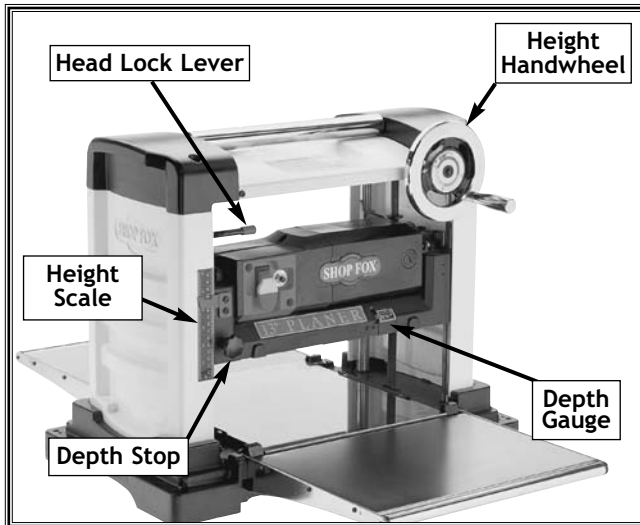
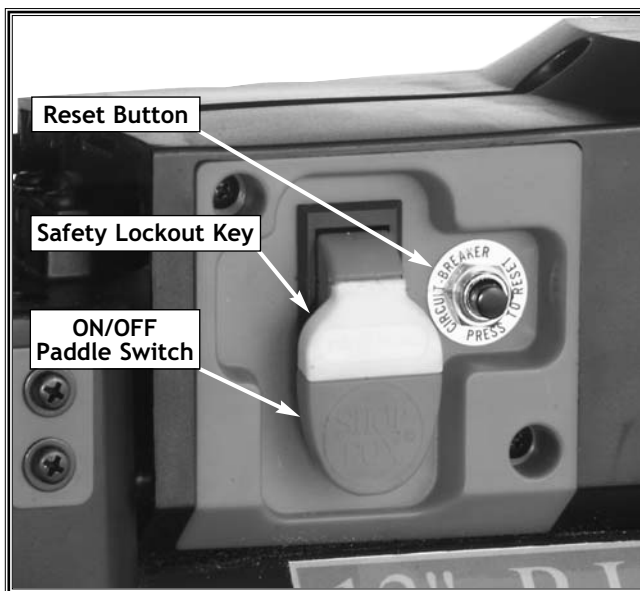

Figure 13. Machine controls.
Figure 14. Electrical controls.
Familiarize yourself with the controls of your new planer. They will be frequently mentioned throughout the instructions in this manual, and the better you know your machine, the better you can make it perform. Use **Figure 13** and **Figure 14** to locate the planer controls.
- **Height Handwheel** – Allows you to adjust the head up or down to accommodate the workpiece height and control cutting depth. The wheel also has a turn vs. cutting depth guide. See **Figure 13**.
- **Head Lock** – Allows you to lock the head in place so that the cutter height setting will not move after adjustment. See **Figure 13**.
- **Depth Gauge** – Shows you the current depth of cut to be made on the workpiece. Only works when the workpiece is directly under the gauge. See **Figure 13**.
- **Height Scale** – Shows you the current cutterhead height adjustment. See **Figure 13**.
- **Depth Stop** – Allows you to lock the cutterhead to a set depth so the cutterhead lowest setting does not change when planing many boards. The cutterhead can be returned to the minimum setting quickly after planing thicker wood. See **Figure 13**.
- **Reset Button** – Allows you to reset the planer if the thermal overload shuts the machine down. Only resets after the machine has cooled down. See **Figure 14**.
- **Safety Lockout Key** – Allows you to protect the machine from accidental startup. Remove the key to disable the ON/OFF Paddle Switch, reinsert the key to enable the switch. See **Figure 14**.
- **ON/OFF Paddle Switch** – Allows you to toggle the planer power ON or OFF. Pull the switch up to turn the planer ON. Push the switch down to turn the planer OFF. See **Figure 14**.